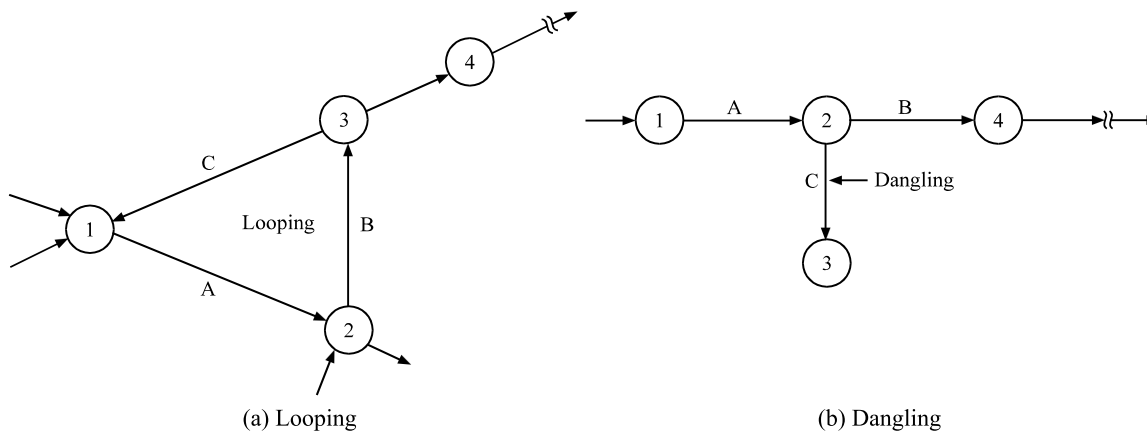

Fig. 13.5
- (i) A case of endless loop in a network diagram, which is also known as *looping*, is shown in Fig. 13.5(a), where activities *A*, *B* and *C* form a cycle.
Due to precedence relationships, it appears from Fig. 13.5(a) that every activity in looping (or cycle) is a predecessor of itself. In this case it is difficult to number three events associated with activity *A*, *B* and *C* so as to satisfy rule 6 of constructing the network.
- (ii) A case of disconnect activity before the completion of all activities, which is also known as *dangling*, is shown in Fig. 13.5(b). In this case, activity *C* does not give any result as per the rules of the network. The dangling may be avoided by adopting rule 5 of constructing the network.